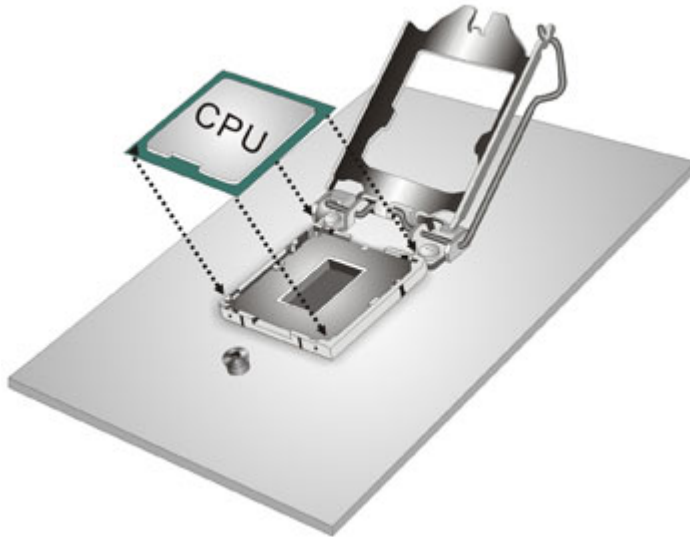

Figure 4-3: Insert the Socket LGA1150 CPU
Step 7: **Insert the CPU.** Gently insert the CPU into the socket. If the CPU pins are properly aligned, the CPU should slide into the CPU socket smoothly. See **Figure 4-3**.